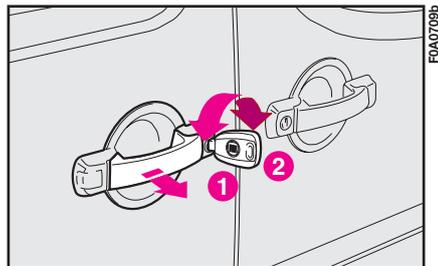

fig. 110
**Opening:** turn the key to **2-fig. 110** and pull the handle in the direction of the arrow then, make the door slide backward to the stop limit catch.
**Closing:** use the external handle and push the door forward. Turn the key to **1- fig. 110**.
**Opening:** pull the handle as shown by the arrow **fig. 110** and make the door slide backward.
**Closing:** pull the handle as shown by the arrow **fig. 110**, thus releasing the lock and make the door slide forward.